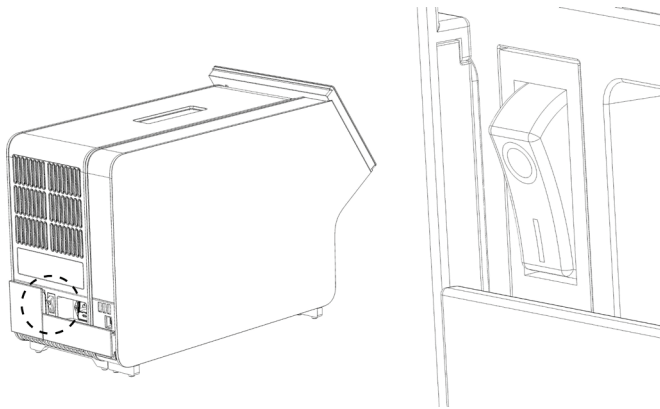

Figure 11. Locating the power switch and setting it to the "I" position.
9. Power ON the instrument by pressing the power switch on the back of the Analytical Module to the "I" position (Figure 11, next page). Confirm that the status indicators of the Analytical and Operational Modules are blue.